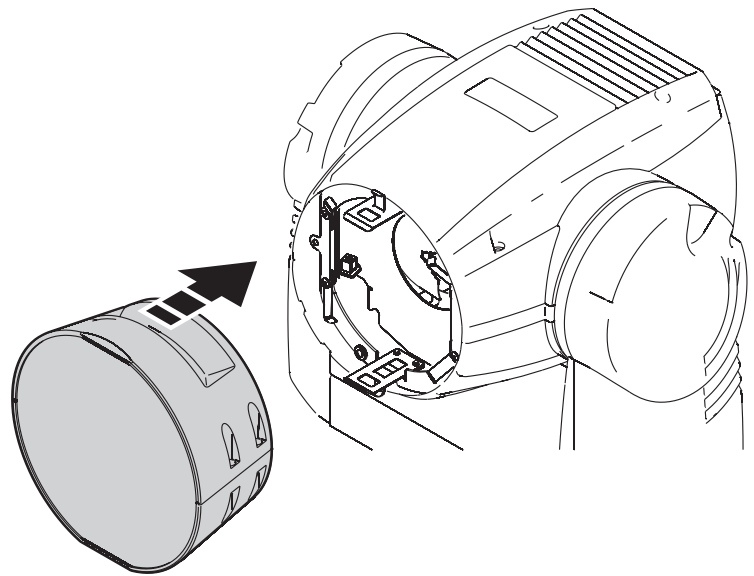

Figure 9
12. See Figure 9. Clip the new front lens assembly securely onto its mounting bracket in the front of the head.